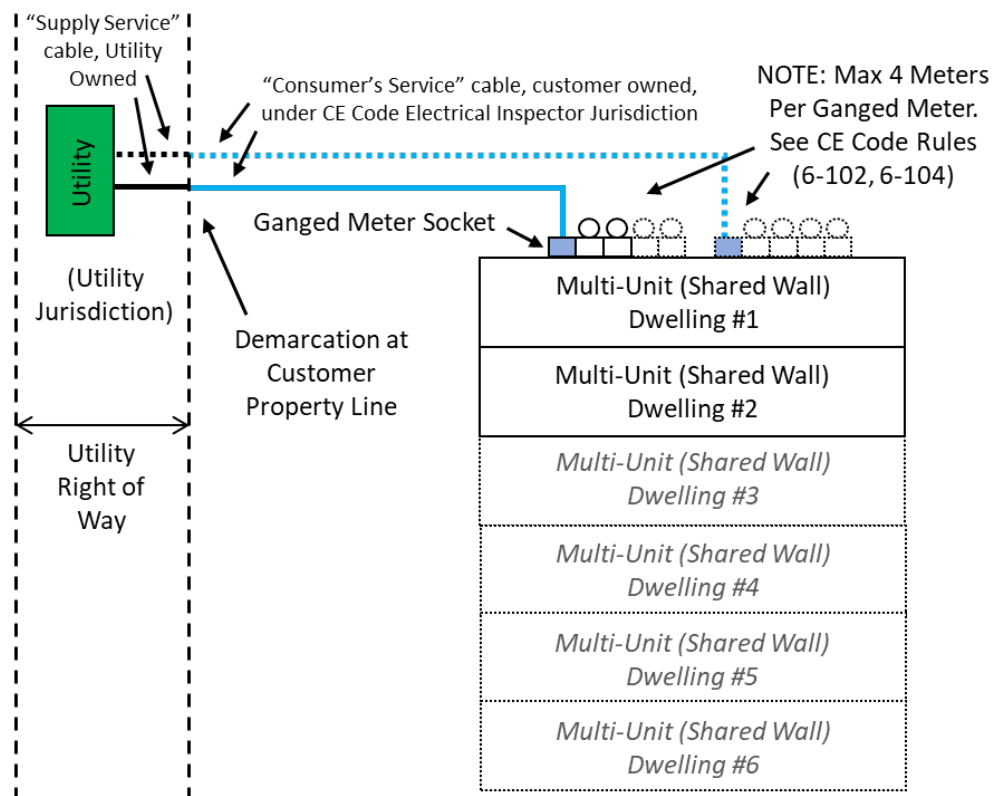

Figure 16 – Servicing Multi-Unit Residential Dwellings with Ganged Meter Sockets
- Four (4) metered units (e.g., fourplex) is the standard limit for a single ganged meter socket serviced by a supply service. A second supply service servicing a second ganged meter socket may be required to serve more than four (4) metered units. Servicing more than four (4) metered units (e.g., fiveplex or sixplex) off the same ganged meter socket or supply service cable can only be acceptable if appropriately designed and allowed by the local inspection authority having jurisdiction. See Canadian Electrical Code, Part 1 [B1] rule 6-102 and 6-104.
- Figure 16 below is an example of a sixplex service fed from two four-ganged meter sockets.